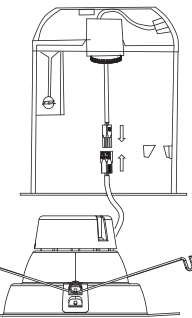

Figure2
STEP3: Plug the connector of the retrofit kit into the connector of the socket adapter assembly. (Figure 2)